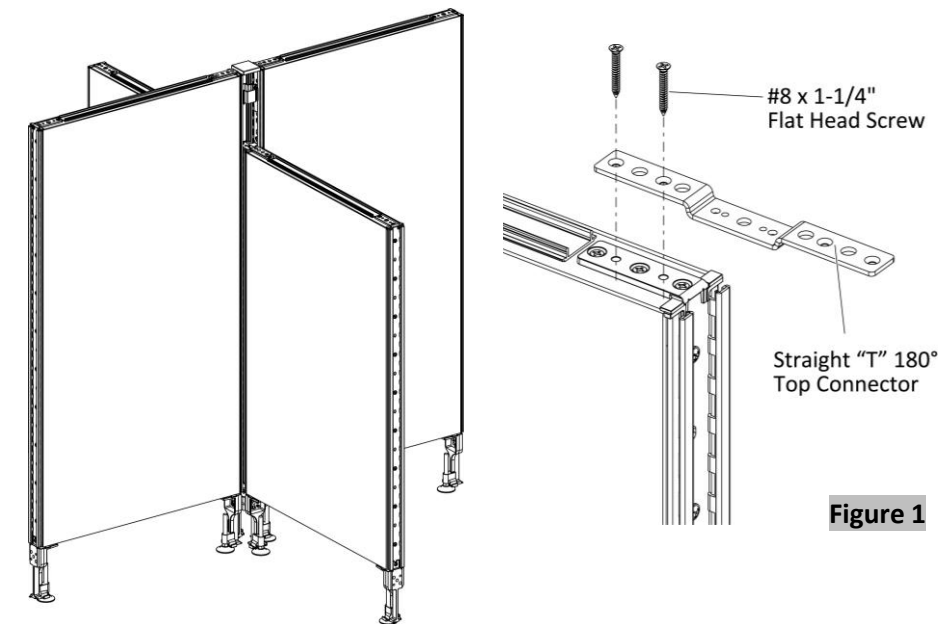

Figure 1
- 1. Position a straight "T" 180° top connector on the top edge of one of the short panels, (Figure 1).